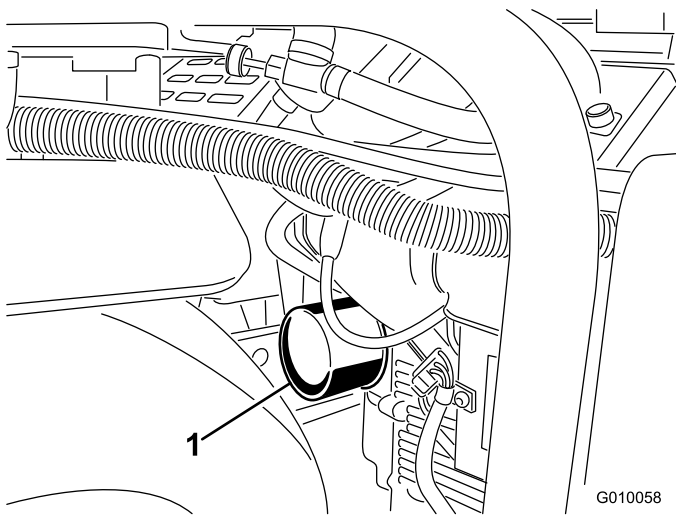
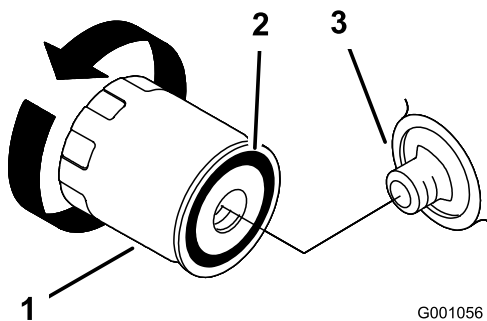

Figure 47
Figure 48
7. Remove the old filter (Figure 47 and Figure 48) and wipe the surface of the filter adapter gasket.